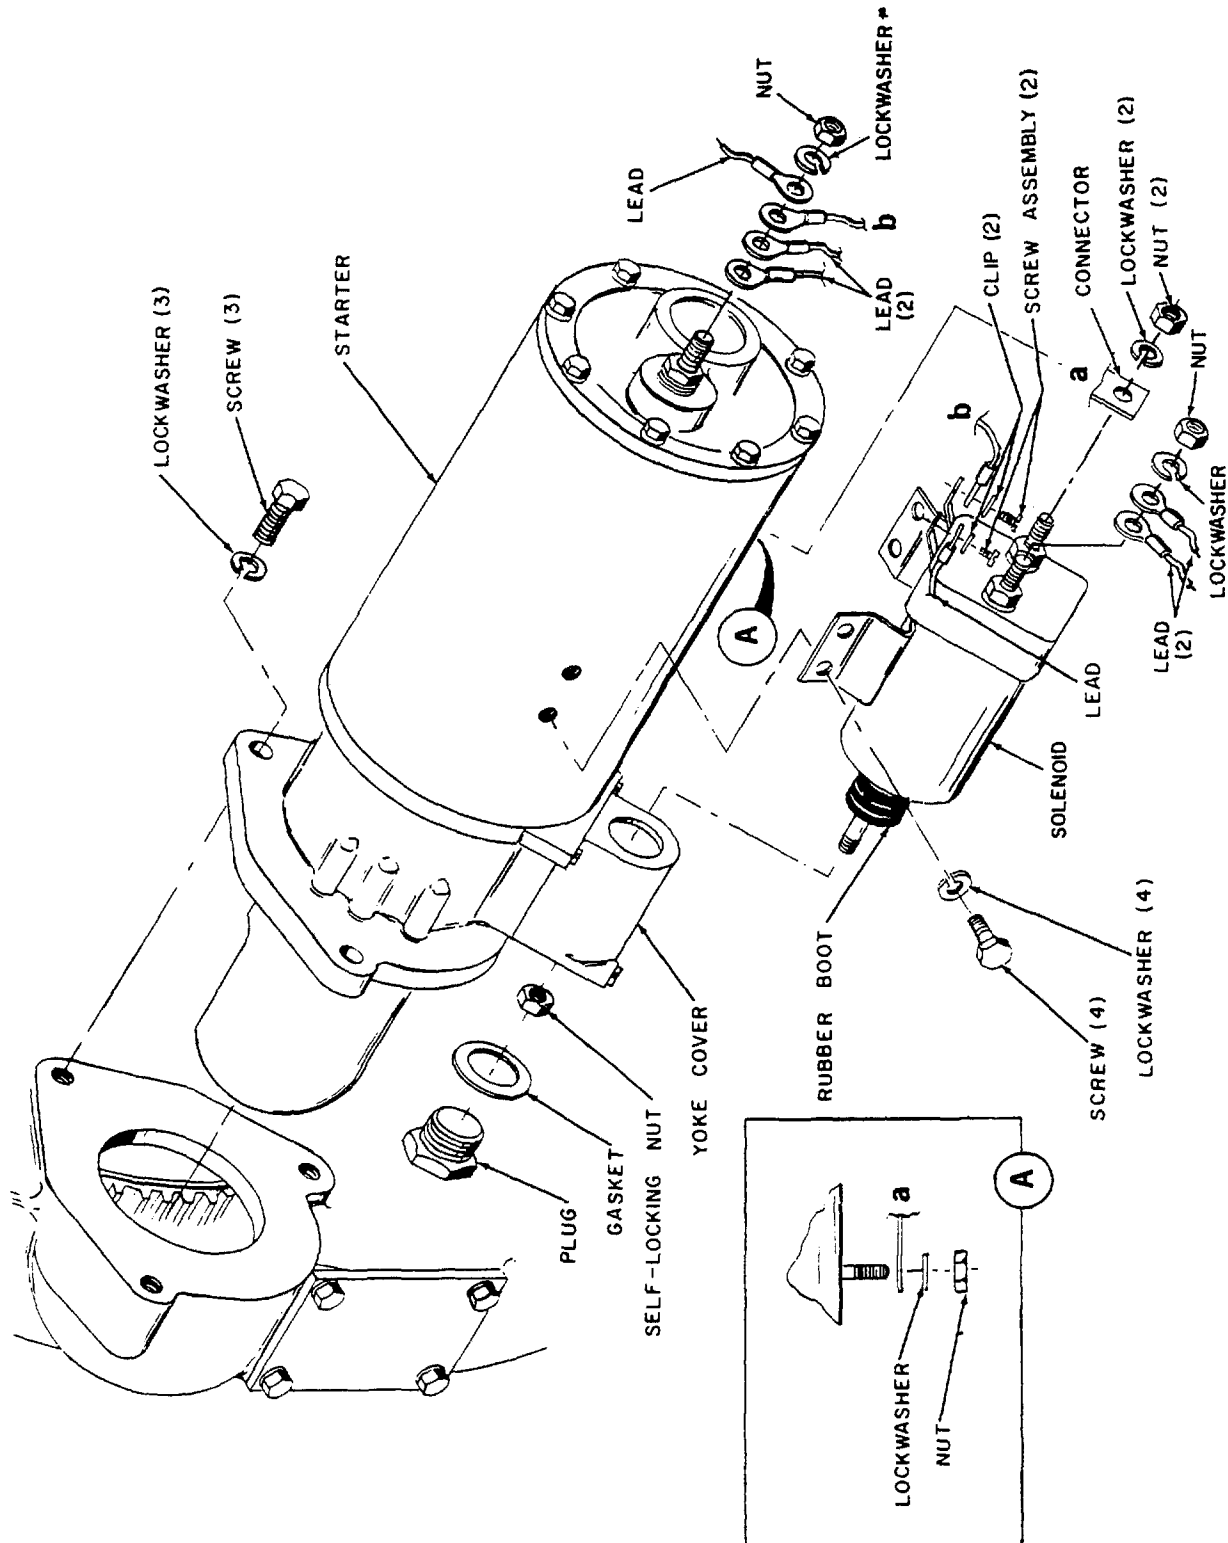

Figure 4-23. Starter and Solenoid, Removal and Installation
c. Removal. Remove starter and solenoid as illustrated in figure 4-23, observing the following:
(1) Remove starter and solenoid from engine and then solenoid from starter.
(2) To disconnect self-locking nut from solenoid shaft, place a deep 1/2 inch socket on nut and place a 5/32 inch Allen wrench through socket drive into shaft. Hold shaft stationary with Allen wrench and remove nut by turning socket. Count number of turns to remove nut from shaft.
d. Installation. Install starter and solenoid as illustrated in figure 4-23, observing the following:
(1) Install solenoid on starter making sure rubber boot is on inside of yoke cover and over outside edge of solenoid case for proper seal.
(2) To connect self-locking nut to solenoid shaft, hold shaft with 5/32 inch Allen wrench and tighten nut same number of turns on shaft required for removal. Do not install plug and gasket at this time.
(3) Adjust drive assembly pinion clearance by performing steps
(4) through (7).
(8) Install plug and gasket in yoke cover, figure 4-23.
(9) Install starter and solenoid on engine.